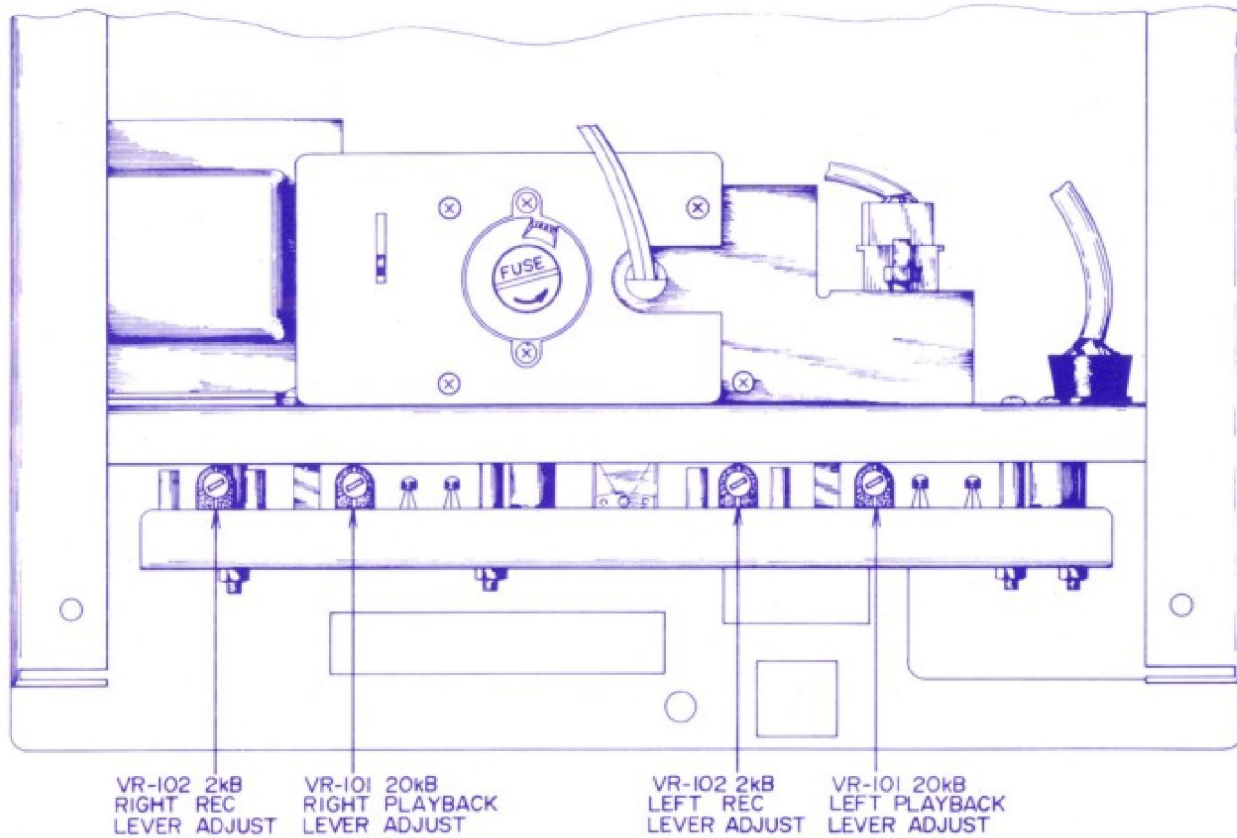

Fig. 7-1
- Adjust the VR 101 (semi-fixed resistor 20 K-B, Fig. 7-1) of the pre-amplifier so that Line Output Voltage indicates 1.228 V ( $\pm 4$  dbm).